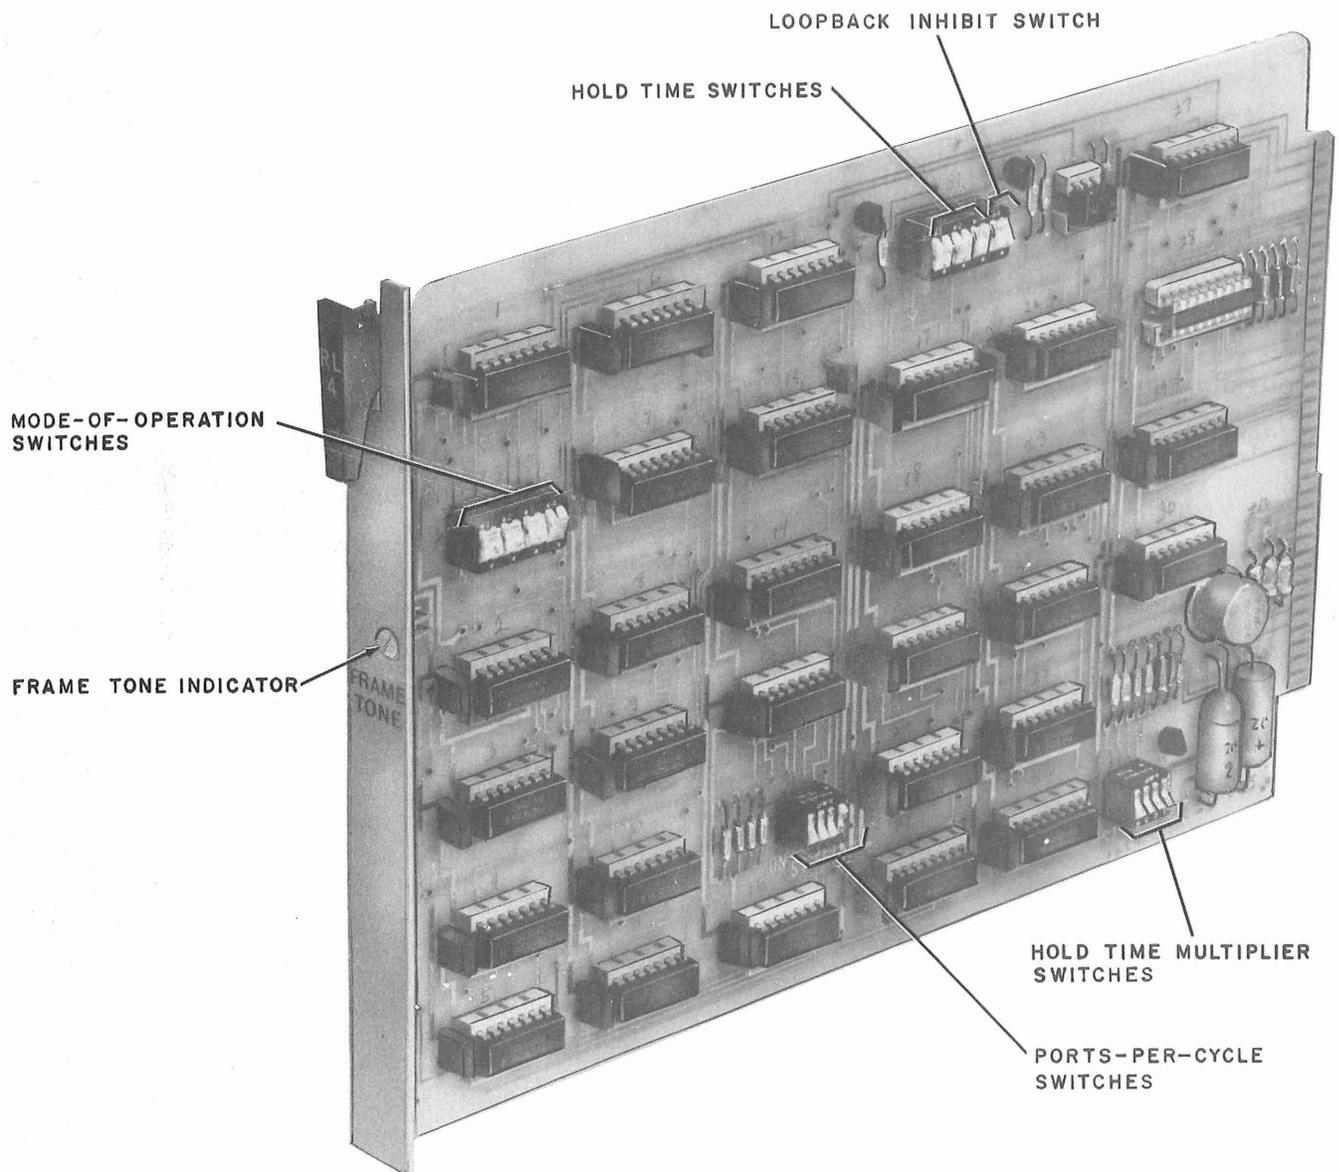

Fig. 11—RL4 CP—Digital Control Circuit for Sequential Offering
2.10 RL4 CP (Fig. 11): One indicator (FRAME TONE) is mounted on the faceplate of the circuit pack. The RL4 CP is 6-3/8 inches high, 5/8 inch wide, 10 inches deep, and weighs 1/2 pound.